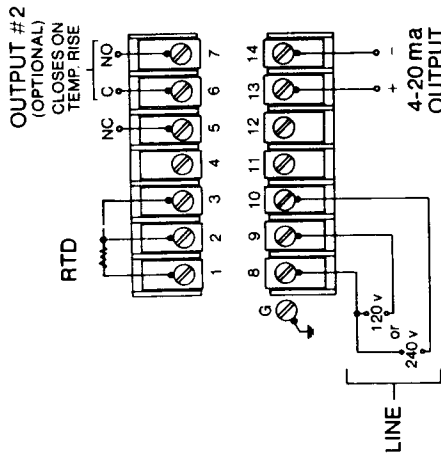

Figure 2-4. Wiring Diagram
Use Figure 2-4 for proper wiring. Shown for 1200 W maximum 240 V ac heater (non-inductive load rating). For larger loads replace heater with power contactor rated as required.
Use Figure 2-4 for proper wiring. Wiring is the same as Model 4201A (No Options, 240 V ac). Solid State N.O. contacts are provided with 2 amp continuous current rating and 10 amp in-rush.
- Use Figure 2-4 for 240 V ac on the main set point. Note that Output 2 is rated for use with 120 V ac only at maximum 3 amps (non-inductive load rating).